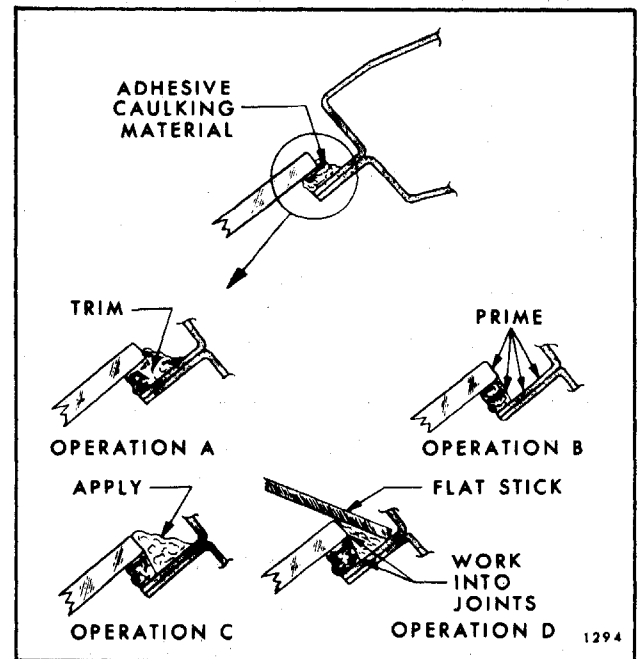

Fig. 11-12 - Adhesive Glass Waterleak Correction
adhesive material (see operation "A", Fig. 11-12) at leak point and 3 to 4 inches on both sides of leak point or beyond limits of leak area.
5. Prime affected area, as shown in operation "B", Figure 11-12, with primer supplied in kit. Thoroughly agitate primer prior to use. Allow primer to dry 5 minutes.
6. Apply adhesive material, as shown in operation "C", Figure 11-12, at leak point and 3 to 4 inches on both sides of leak point or beyond limits of leak area.
7. Immediately after performing step 6, use flat stick or other suitable flat-bladed tool to work adhesive material well into leak point and into joint of original material and body to effect watertight seal along entire length of material application (see operation "D", Fig. 11-12).